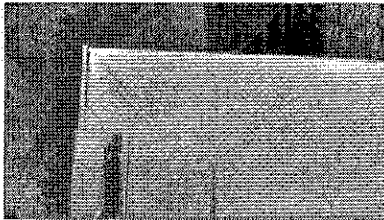

figure 1
- 2.3 Clean the interlock in the notched area at the top and bottom with rubbing alcohol (see figure 1 below, top shown bottom similar).